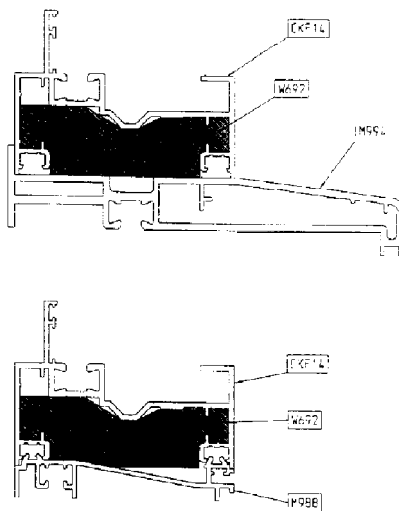

Fig. 32. FITTING FOAM BUNGS
1.3. General (Figs. 32 & 33)
Where a drainage tray or projecting cill is fitted make sure foam bungs (W692) are inserted at both ends of the cill/frame joint. The bungs must be silicone sealed in place to prevent water tracking to the brickwork - Fig. 32